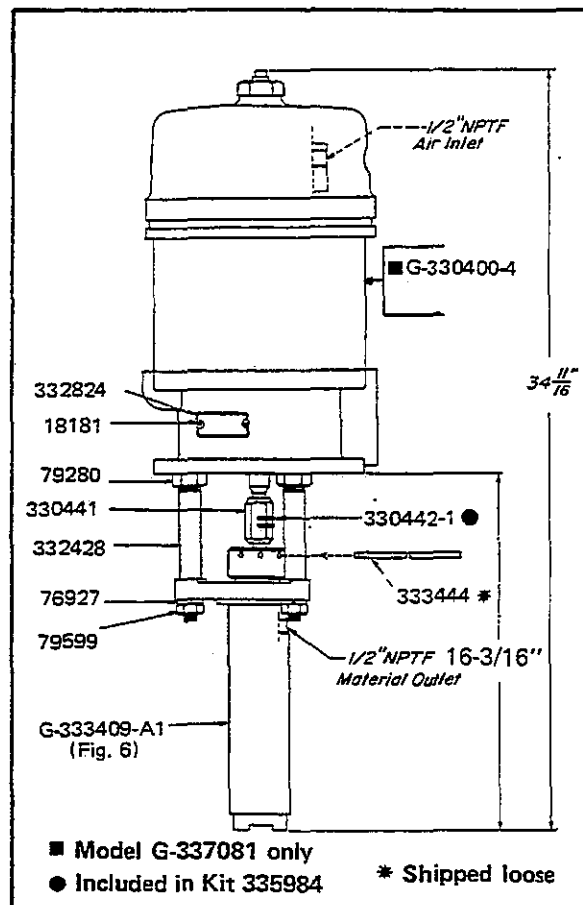

FIGURE 2 Model G-337081 Material Pump
2. Attach air line from air source to air inlet of air motor (Figure 2). The main air supply line should be 3/4" or 1" I.D. pipe. The connecting hose between the main air line and the pump should be 1/2" or 5/8" I.D.
3. Attach material line to material outlet of pump tube (Figure 2).
3. Insert adjustment bar 333444 into one of the holes in cap 333418 and rotate cap approximately 1/4 turn (Figure 2).
2. Pry out upper spring clip 330442-1 and unscrew coupling 330441 from air motor piston rod (Figure 2).